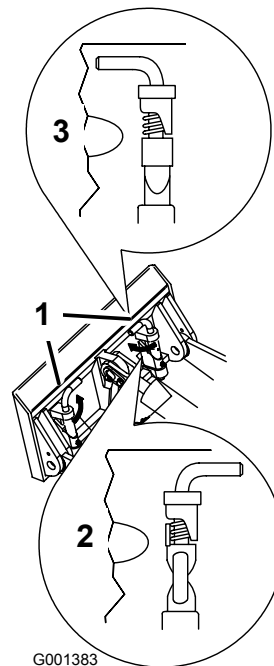

Figure 6
7. Engage the quick attach pins, ensuring that they are fully seated in the mount plate (Figure 6).